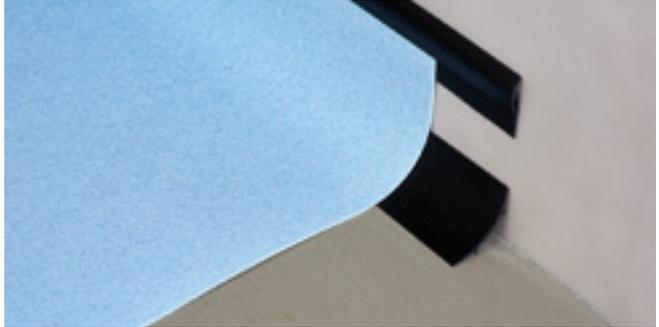

Figure 8 CS-N capping strips
**3.13.1 Fitting Ejecta capping strip (type CS-N) Figure 8**